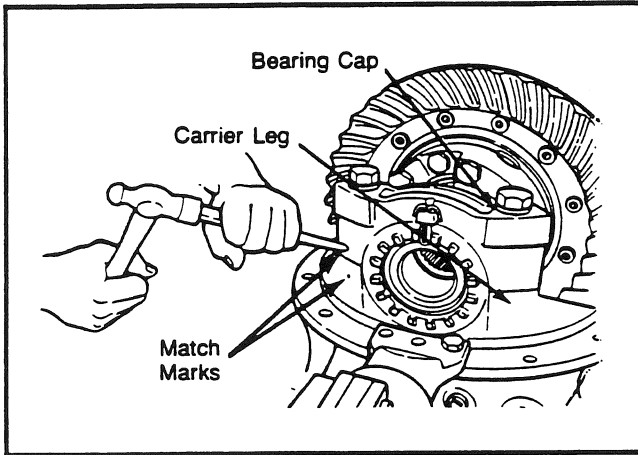

Fig. 10
3. Mark one carrier leg and differential bearing cap to correctly match the parts during assembly. Use a center punch and hammer to mark the parts (see Fig. 10).